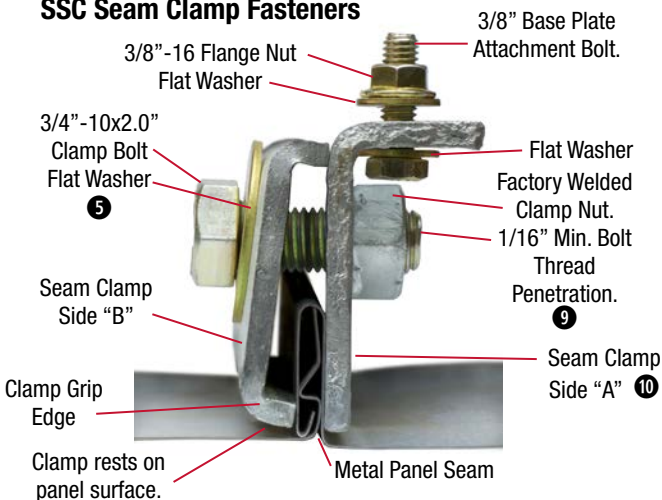

Fig.11
- Set seam clamps over metal panel seams and center the base plate as shown at Fig.11. Tighten 3/4" clamp bolts sufficiently to prevent movement leaving flange nuts loose. See 10.1 and Fig.13.